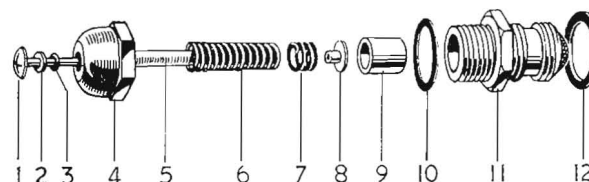
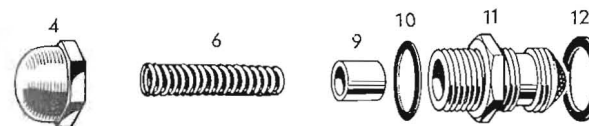

Fig. 14. Exploded view of oil-pressure release valve provided with indicator shaft and button
Fig. 15. Exploded view of oil-pressure release valve not provided with indicator shaft and button
Check Oil Circulation Regularly. On all 650 c.c. engines and all 350 and 500 c.c. engines up to engine No. H 40528 the oil pressure and circulation can be checked regularly by means of the button protruding from the oil-pressure release valve shown in Fig. 14. When the engine is stationary the button on the end of the indicator shaft should be flush with the
On all 1956-65 350 and 500 c.c. models prior to engine No. H 40528 the oil-pressure release valve incorporates an indicator button as shown in Fig. 14 and an oil supply to the rear chain from the oil return pipe is not provided as shown above. See also caption to Fig. 56
On all 350 and 500 c.c. engines from engine No. H 40528 the oil-pressure release valve, as may be seen in Fig. 15, has no indicator shaft and button. In this case to check the oil circulation, remove the oil tank filler cap and observe whether, with the engine running, an intermittent stream of oil flows from the end of the oil-return pipe. Small bubbles should cover the surface of the oil inside the tank. Where no indicator shaft and button are provided, make a habit of checking the oil circulation in this manner before starting out on every long run. Note that for some minutes after starting up the engine it is quite usual for an excessive amount of oil to flow from the return pipe. The flow should then be normal.
Maintenance of Oil-pressure Release Valve. Two types of valve (see Figs. 14 and 15) are fitted and both are similar except that one has no indicator shaft and button for visual checking of the oil pressure and circulation. Both types are thoroughly reliable and require no maintenance other than occasional cleaning. When changing the engine oil, or perhaps at somewhat less frequent intervals, it is desirable to remove and strip down the release-valve unit, clean all of its components thoroughly in paraffin (kerosene), inspect them for wear, and then reassemble and replace the unit.
To Dismantle and Assemble Oil-pressure Release Valve (Fig. 14). To remove the complete unit from the crankcase, remove the hexagonal nut adjacent to the crankcase surface, and withdraw the unit. To dismantle the unit unscrew the valve cap (4) from the valve body (11), holding the
Key to Figs. 14, 15
To Dismantle and Assemble Oil-pressure Release Valve (Fig. 15). The dismantling and assembling procedure for an oil-pressure release valve unit not provided with a button indicator is the same as that just described for a unit with a button indicator except for reference to six components not fitted, i.e. those numbered 1-3, 5, 7, 8 in Fig. 14.